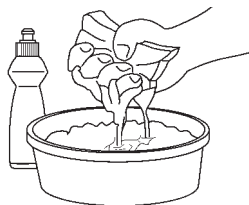

Figure 21
3. Wash the air filter in laundry detergent or kerosene (Fig. 21).